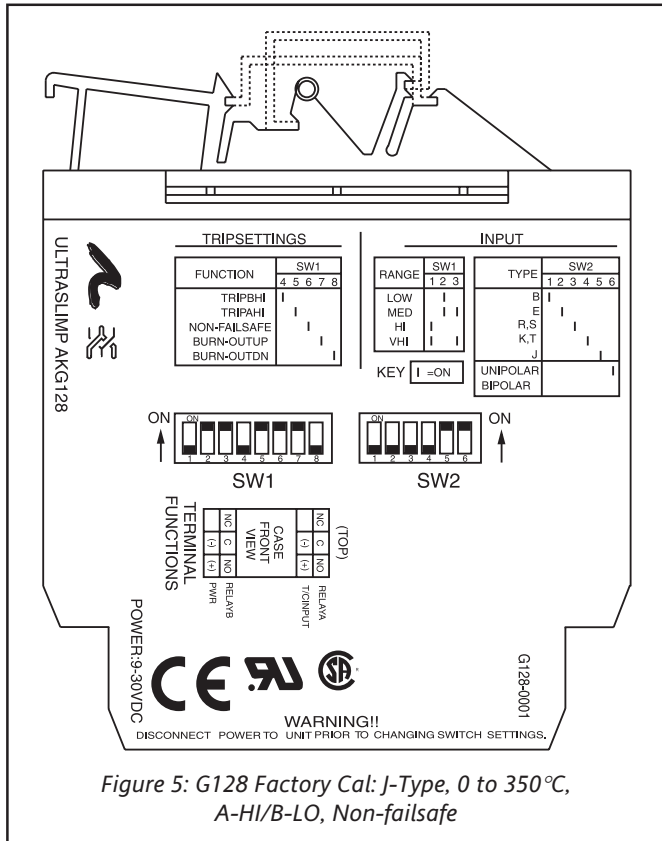

Figure 5: G128 Factory Cal: J-Type, 0 to 350°C, A-HI/B-LO, Non-failsafe
1. After configuring the DIP switches, connect the input to a calibrated TC source and apply power. Refer to the terminal wiring (Figure 5).